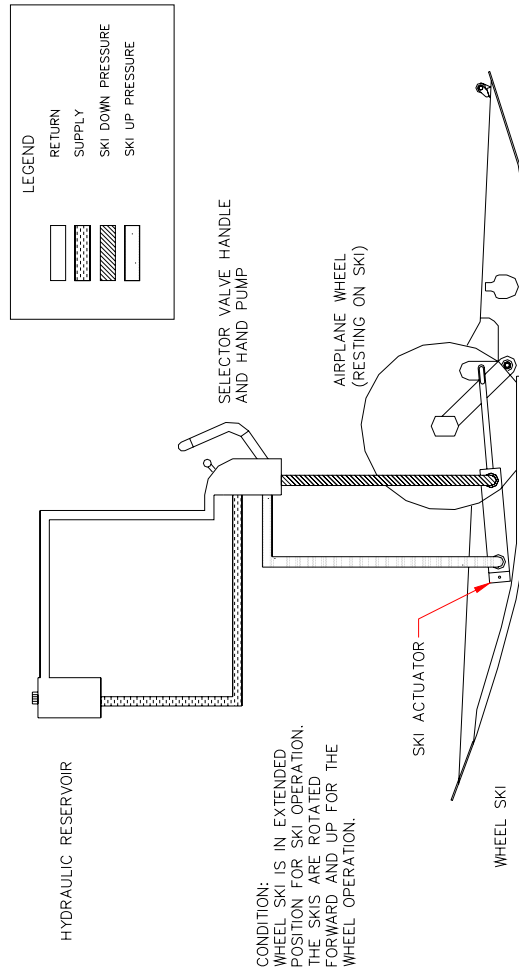

Figure 5 Retractable Wheel Ski Hydraulic System
4. Hydraulic system to support the retractable main wheel skis (Figure 5).